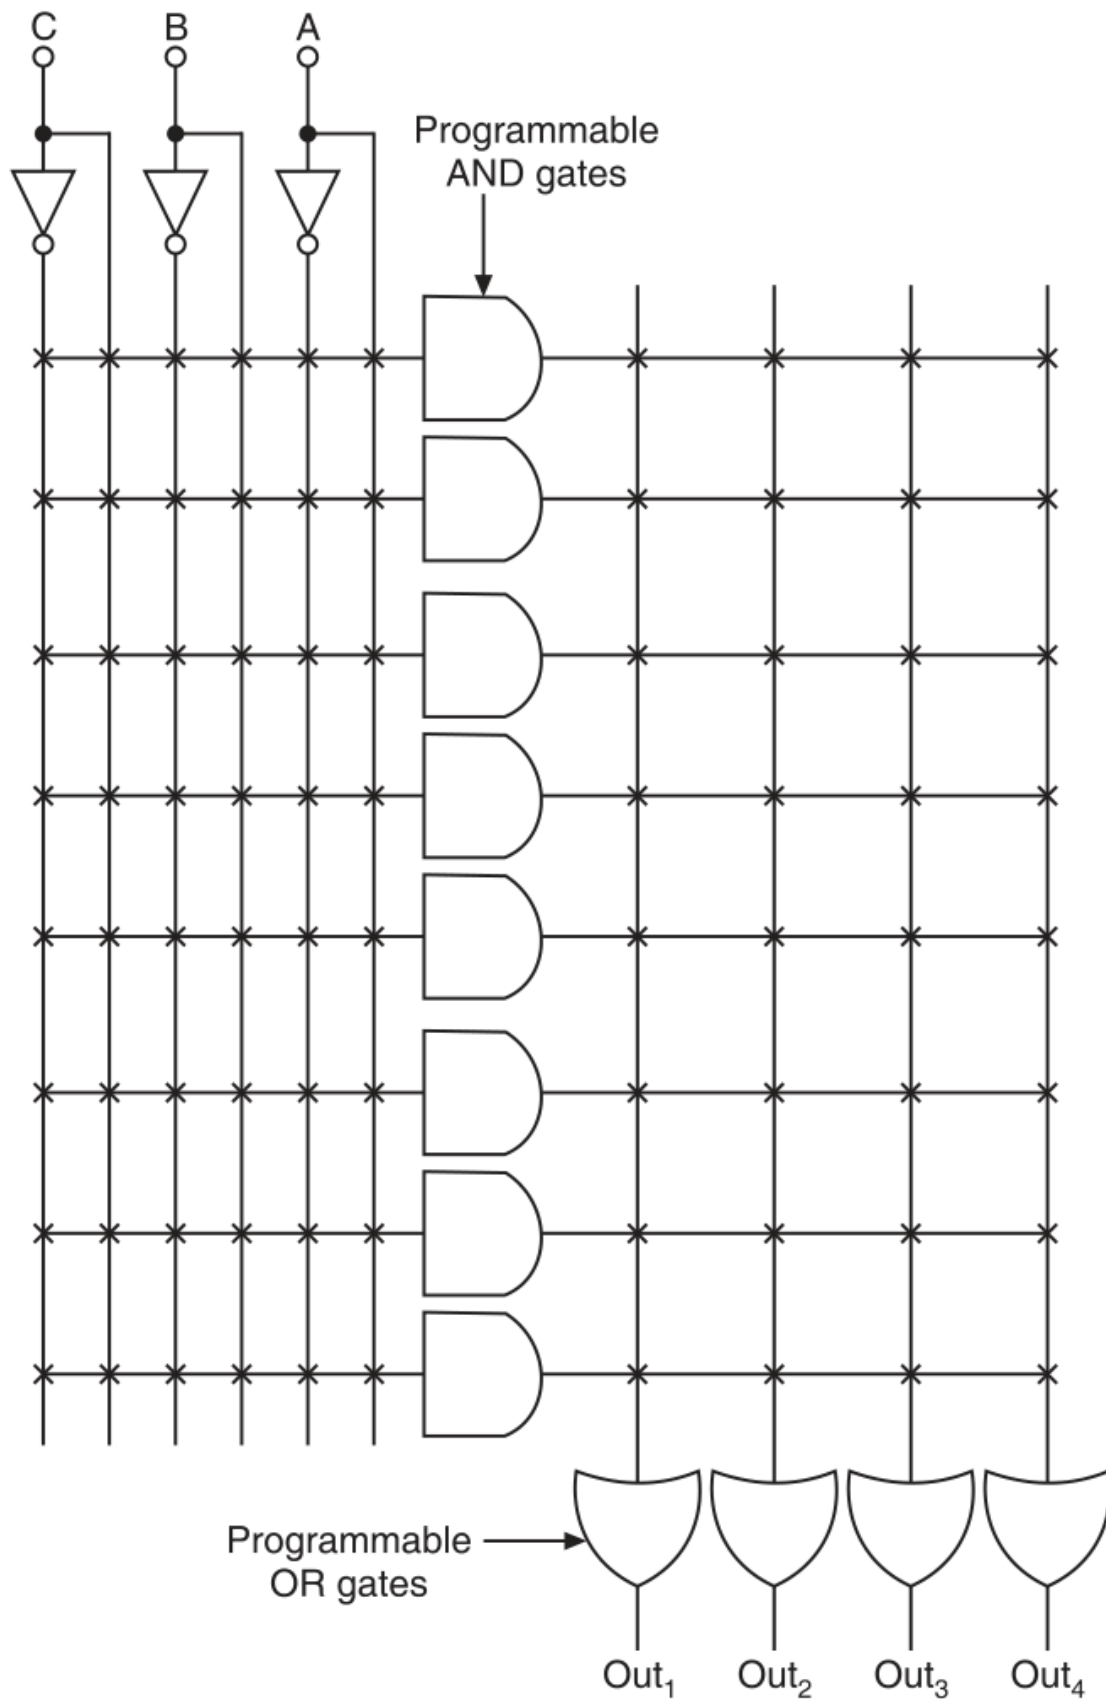

Figure 8.15 Structure of (an unprogrammed) PLA circuit.
2. Programmable Logic Array (PLA) (Kumar, p. 508, Figure 8.15)